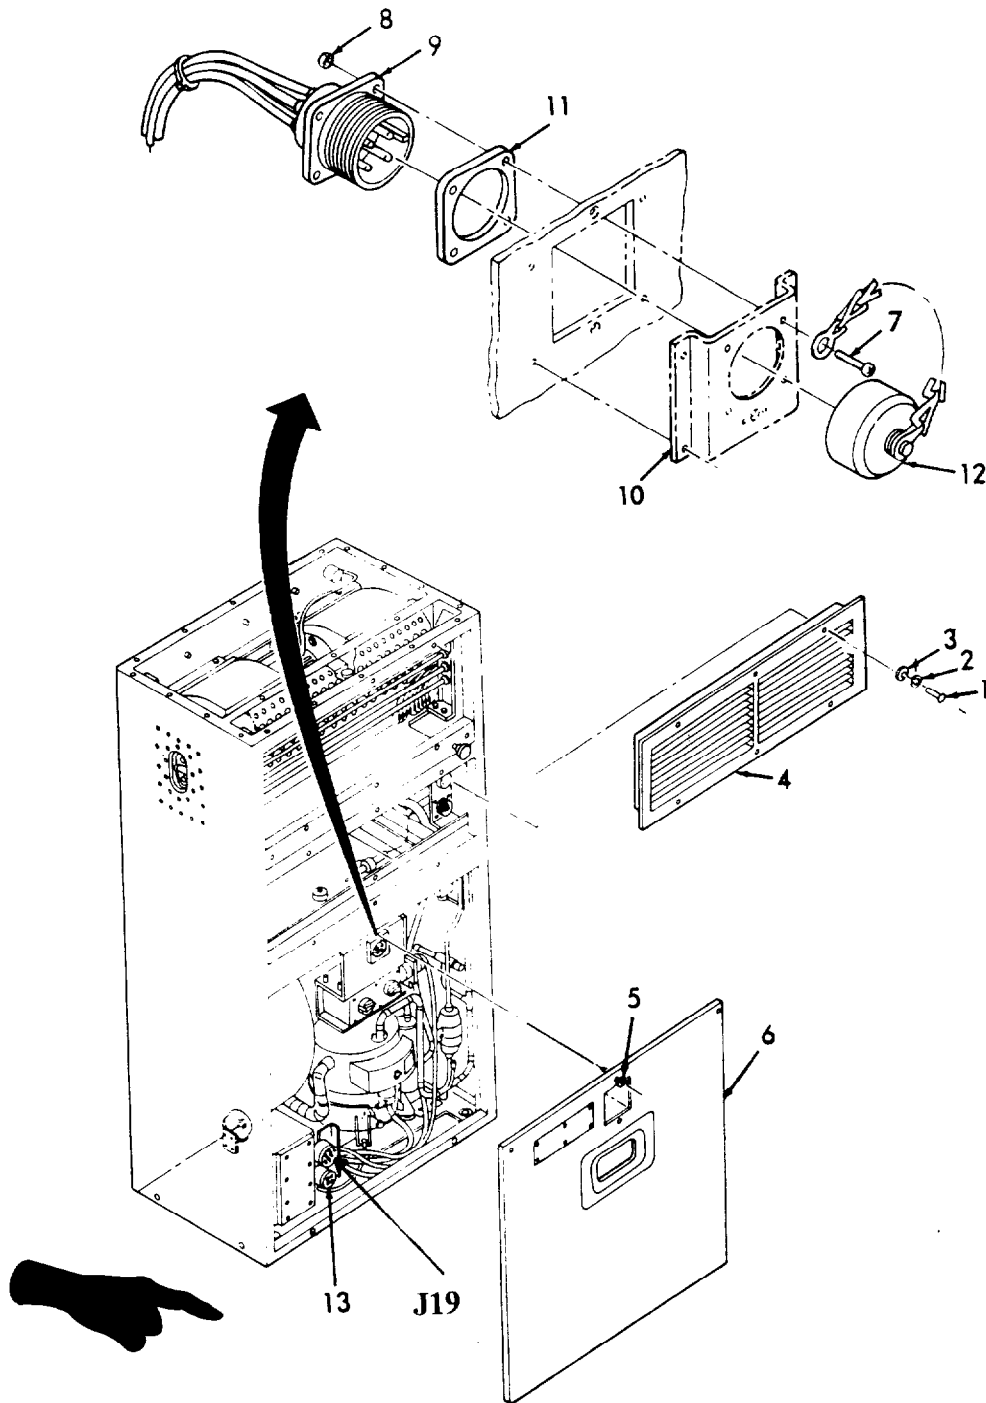
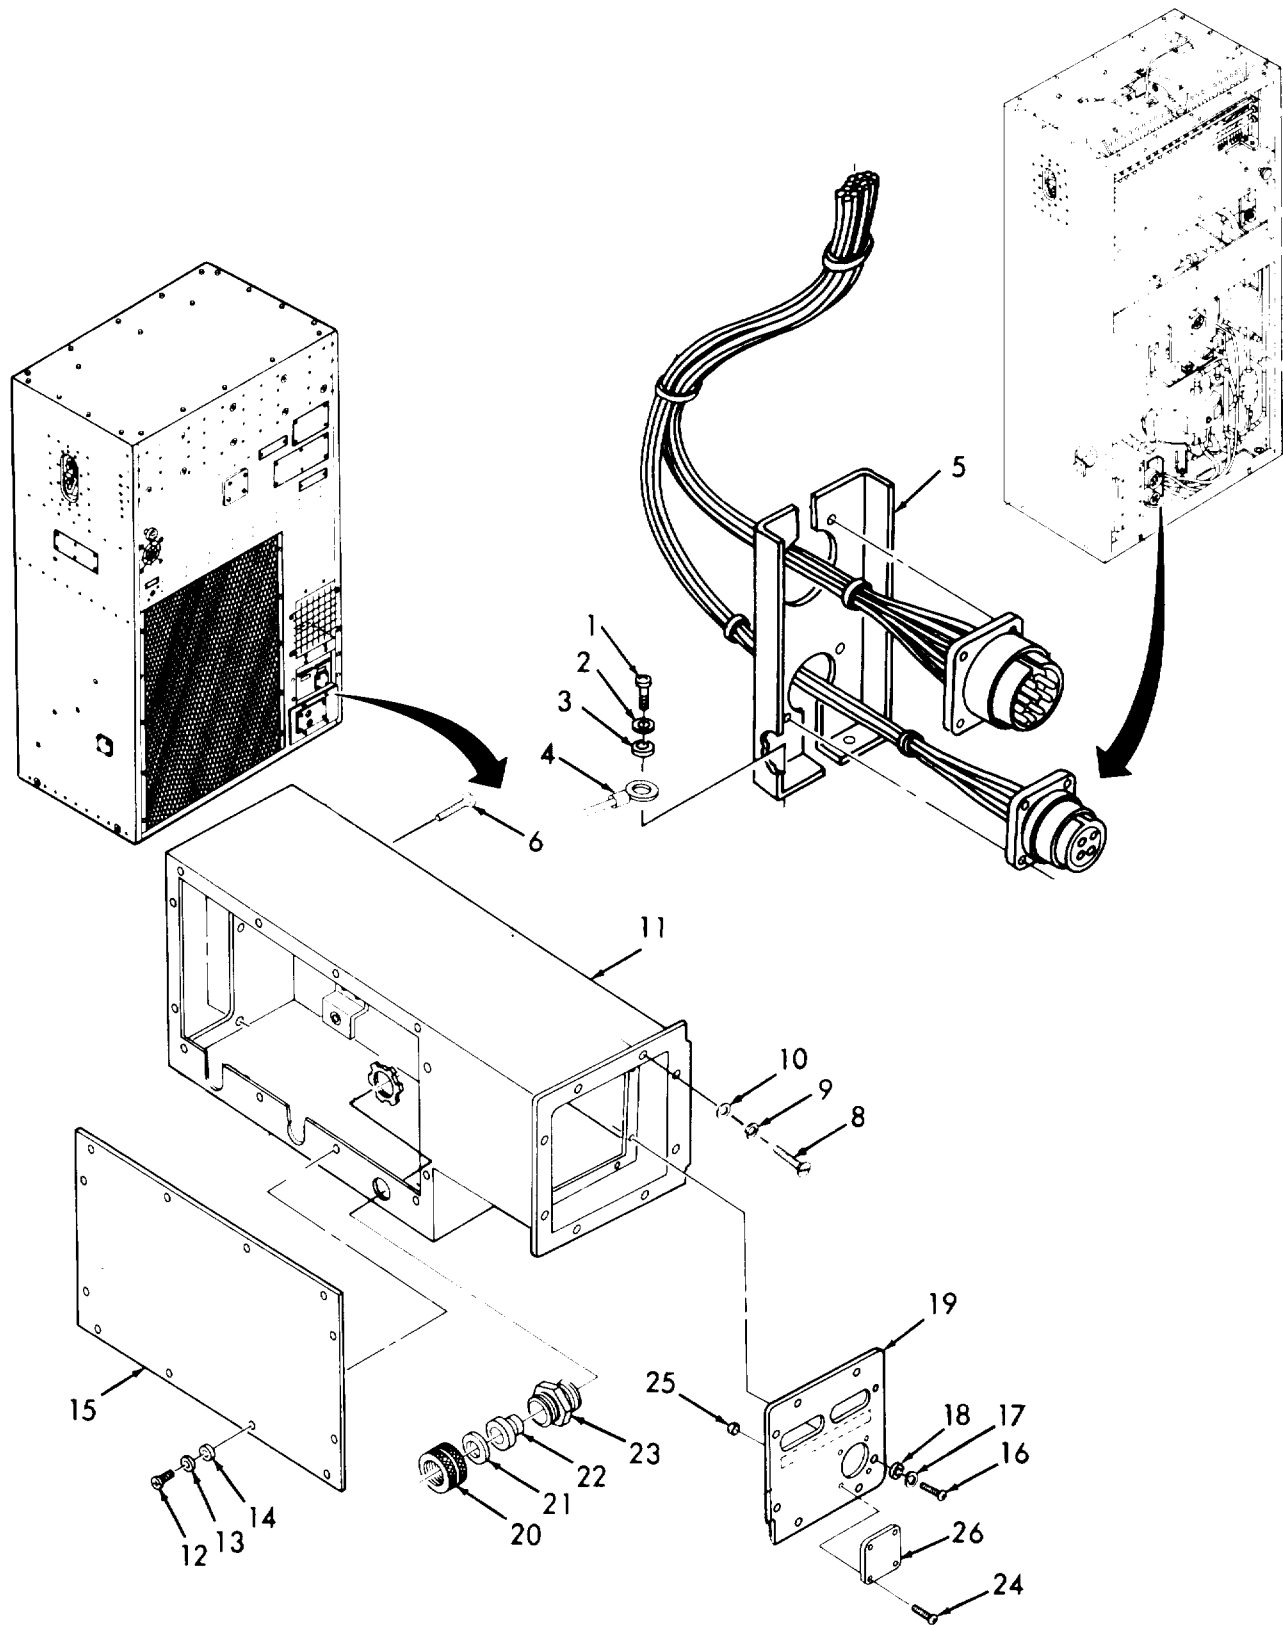

Figure 4-2. Cable Connections Through Return (Conditioned Air Intake) Duct.
Figure 4-3. Relocation of J1 to Rear Location.
- l. Secure the control module (16) using appropriate hardware in the remote location.
- m. Install block-off panel (Appendix D) using the four mounting screws (11) and nuts (15) removed from the control module (16).
- n. Install the P8 connector to connector J19. (See Figure 4-2)
- p. Fabricate an interconnecting cable/harness of the required length and connect J20 to J8 of the control module (16).
- (1) (Refer to Figure 4-2.) Loosen four captive panel fastener screws (5) in front panel (6).
- (2) Tip top of front panel (6) away from unit and lift panel up to clear flange on bottom of panel.
- (3) Remove four screws (7) and four nuts (8) from J1 connector.
- (4) Remove J1 connector and harness, rubber gasket (11), and electrical cover cap and chain (12) from mounting plate (10).
- (5) Perform the following steps for relocating connector J1 to the left or right side alternate connector locations.
- (b) Install connector J1 (9), electrical cover cap and chain (12), and rubber gasket (11) in new location with four screws (7) and four nuts (8).
- (c) Install cover plate removed from side of unit on mounting plate (10) where J1 connector (9) was removed with the four screws and four nuts which held cover plate to side of unit.
- (6) Perform the following steps for relocating connector J1 to the rear alternate connector location. (Refer to Figure 4-3.)
- (a) Remove two screws (1), two lock washers (2), two flat washers (3), and ground cable (4).
- (b) Remove auxiliary power connector bracket (5).
- (c) Remove six screws (6) from side of unit.
- (d) Remove eight screws (8), eight lock washers (9), and eight flat washers (10) from rear of unit.
- (e) Remove junction box assembly (11) from unit.
- (f) Remove twelve screws (12), twelve lock washers (13), twelve flat washers (14), and junction box cover (15).
- (g) Remove eight screws (16), eight lock washers (17), eight flat washers (18), and cover (19).
- (h) Tag and disconnect J1 harness wires from terminal block TB1 inside junction box assembly (11), and carefully cut and remove any cable ties holding J1 harness wires in place.
- (i) Loosen cap (20), washer (21) and grommet (22) from connector (23) and pull J1 harness wires from junction box assembly (11).
- (j) Feed connector J1 through back of junction box assembly (11) through opening where cover (15) was installed.